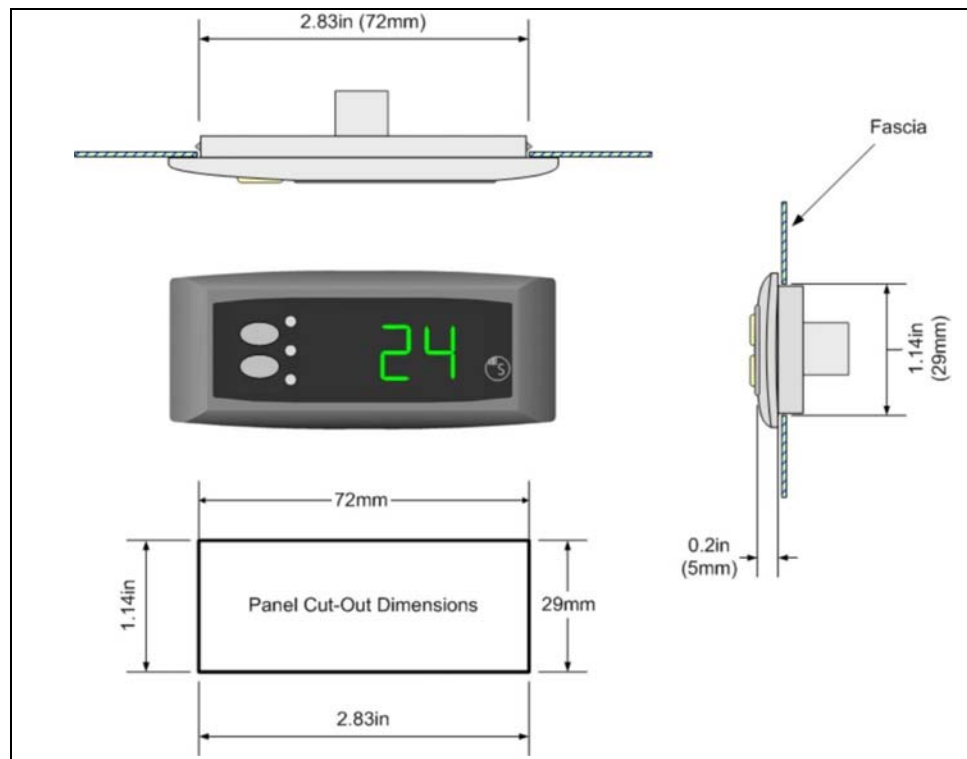

Figure 7. Through-hole mounting the display
- Through-hole DIN box-style mounting (Figure 7)
If the display module is mounted in a cutout hole in the canopy or fascia of the display case, it is simply pushed into the hole. The mounting hole size and unit dimensions are shown in Figure 7.